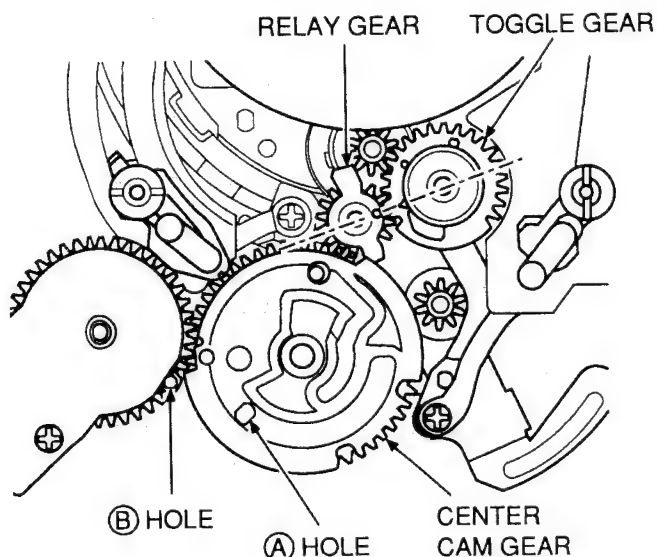

Fig. 3-28
5. Reassemble them in the reverse order for installation. When reattaching the MOTOR CHASSIS on the MECHA. CHASSIS, take care not to loose the timing of the RELAY GEAR and TOGGLE GEAR as shown in Fig. 3-28 (refer to 3-4-11, steps 8 to 9 if necessary).